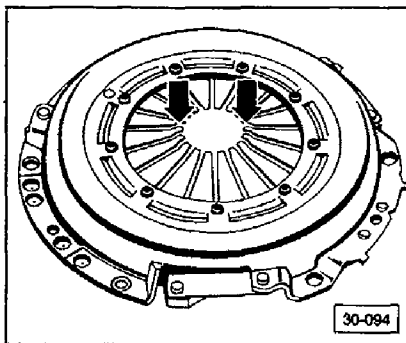

Fig. 2 Clutch diaphragm spring ends, checking
► Fig. 2 Clutch disc, checking runout